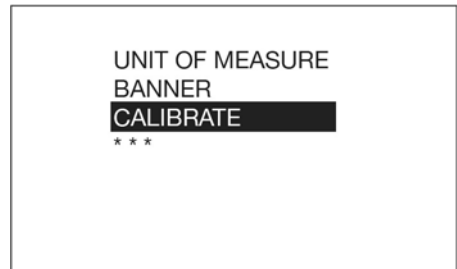

FIG. 13
4. Select the CALIBRATE option (FIG. 13) to display the calibration K-Factor screen shown in FIG. 14.